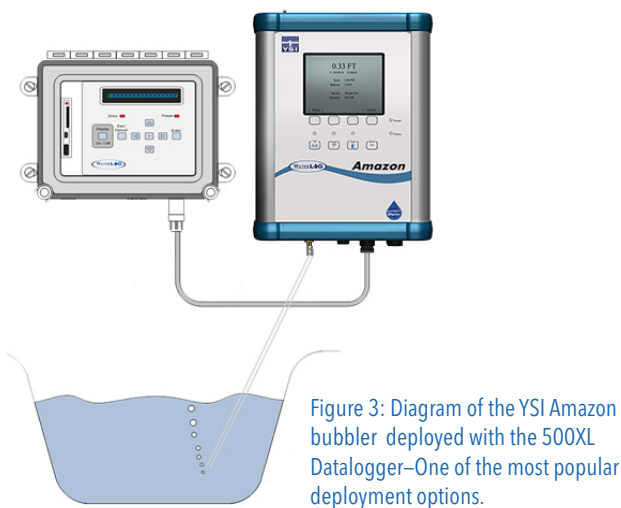

Figure 3: Diagram of the YSI Amazon bubbler deployed with the 500XL Datalogger—One of the most popular deployment options.
- The ability to communicate with any data logger via SDI-12 or 4-20 mA (*Figure 3*).